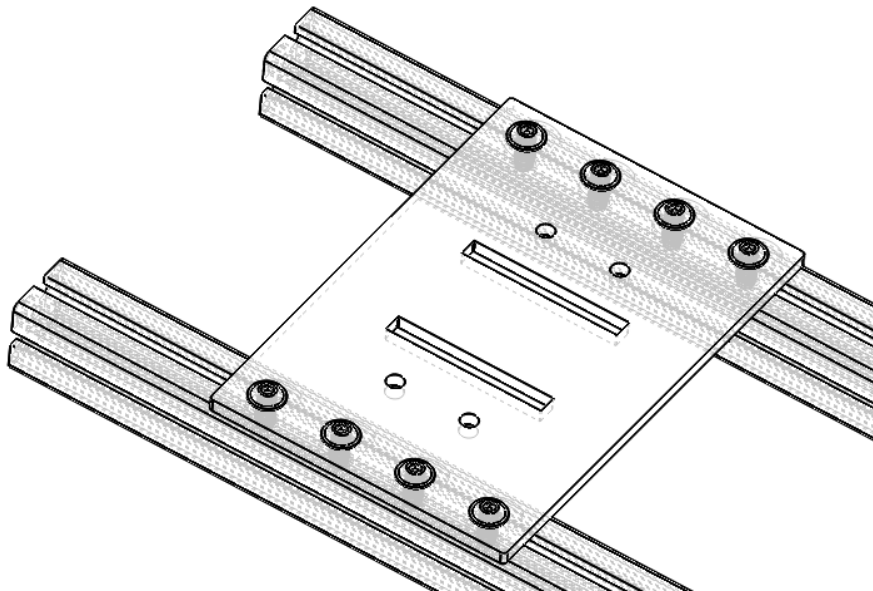

Fig. 3.7: Fixture base plate (#KGTP) fixed on the two beam (#HJXQ) with end feed fasteners
- ☐ Put two fixture plates (#KGTP) on the top of the two beams and align them with eight 8.50mm holes of each plate with the end-feed fastener parts holes. (See Fig. 3.7)